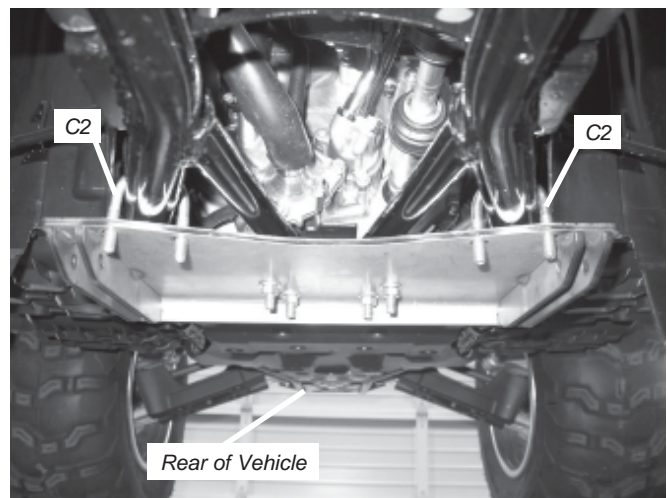

Figure 3 Install Front U-Bolts
3. Slide two 5/16" dia x 1-3/8" wide U-bolts (C2) over the large side frame tubes under the vehicle and through the plow mount (A1) as shown in figure 3.